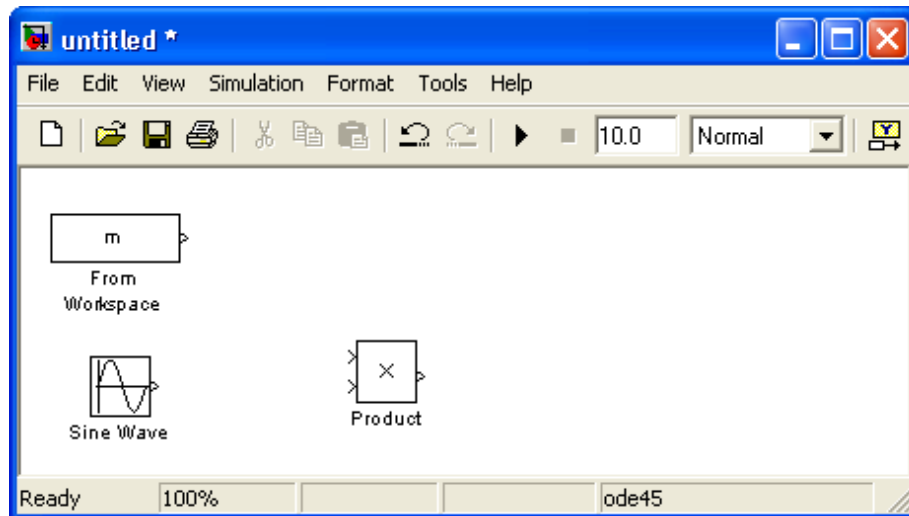

Figure 14: Untitled Design Window Showing Product Block
1. The product of the modulating sequence and carrier sequence is generated using the Product block located at Simulink → Math Operations → Product. Drag the Product block onto the design window. The design window with the Product block is shown in Figure 14. No modifications are required for the Product block parameters. But you should open the Parameter block and note that this block can be used for division or multiple inputs.